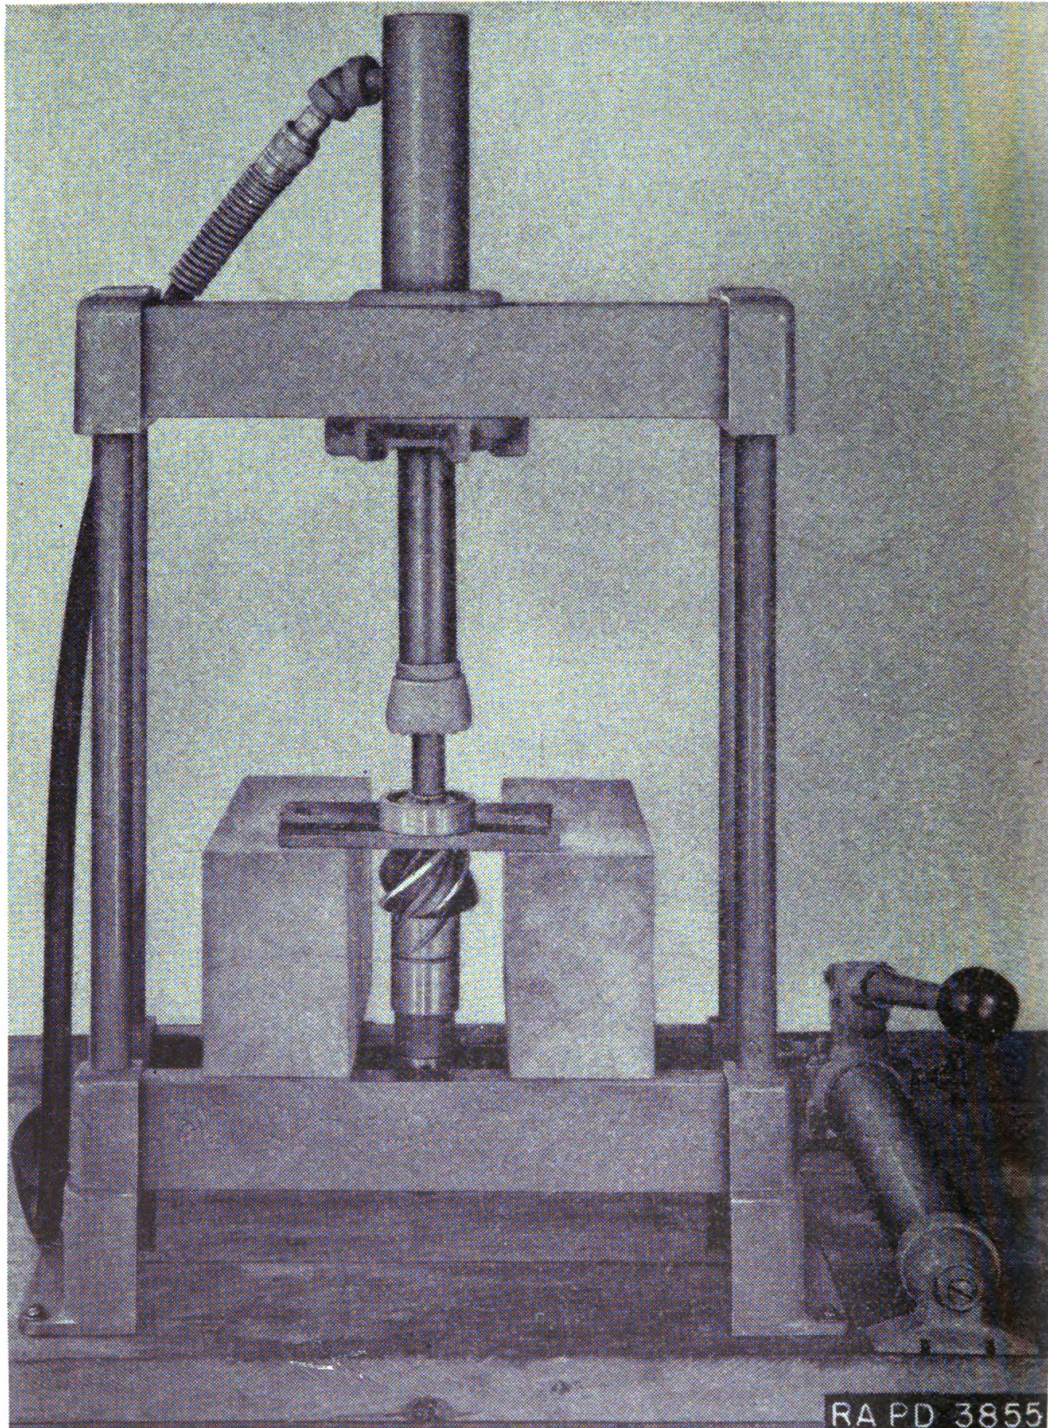

FIGURE 26.—Pressing off front axle drive pinion straight roller bearing.
(9) Remove straight roller bearing—press. Press straight roller bearing (A225895) off shaft (fig. 26).
(10) Remove oil seal—press, collar. Press oil seal (A145910) out of retainer from inner side.